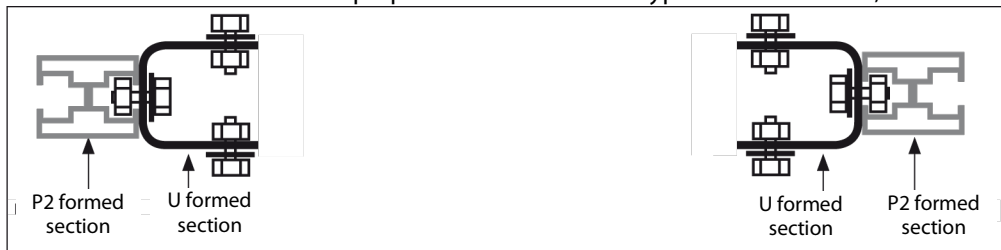

Figure 09
- Fit the two U formed sections prepared with the two P2 type formed sections, as shown in figure 09.